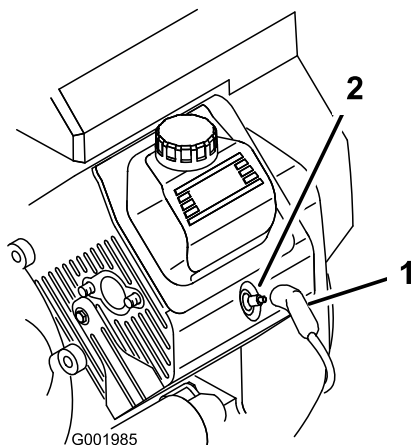

Figure 49
- Pull the wires off the spark plugs (Figure 49).
- Push the wires onto the spark plugs (Figure 49).